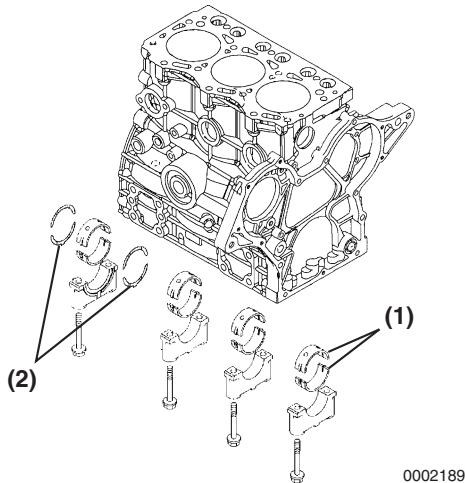

Figure 6-59
12. Remove the bearing inserts (**Figure 6-59, (1)**) and thrust bearings (**Figure 6-59, (2)**).